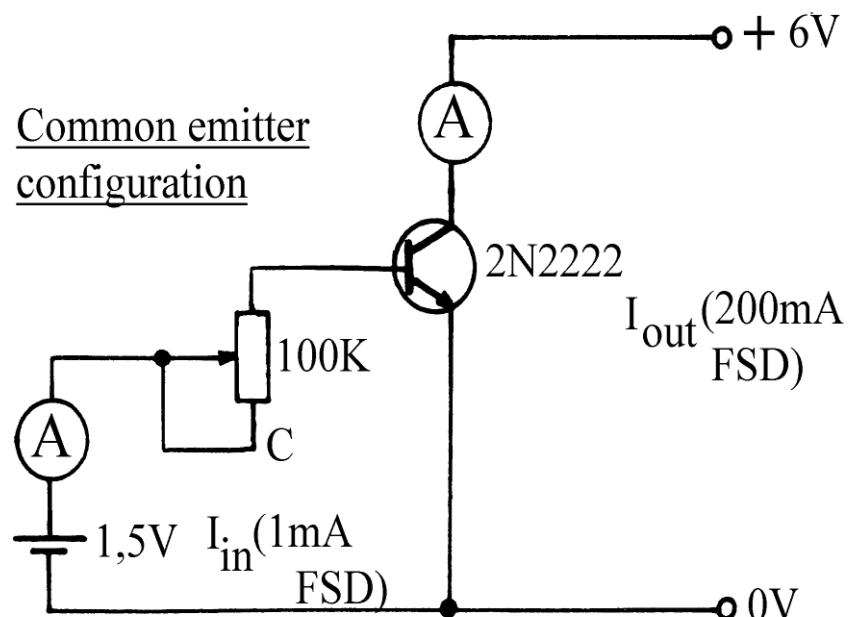

Figure 4
- Construct the circuit shown in Fig. 4.